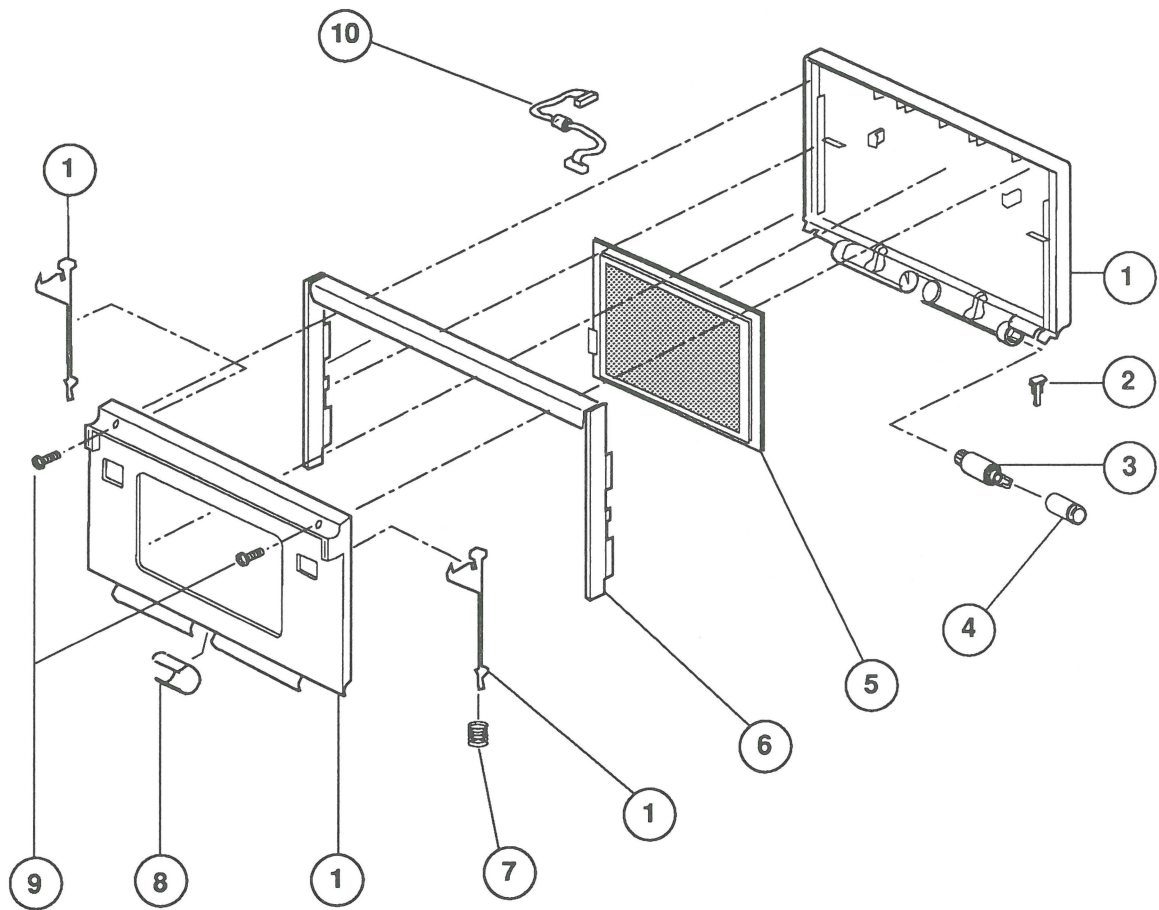

FIGURE 2
- IPL.5 Nonbacklit Display Assembly (Figure 2)
□ **NONBACKLIT DISPLAY ASSEMBLY (Figure 2)**